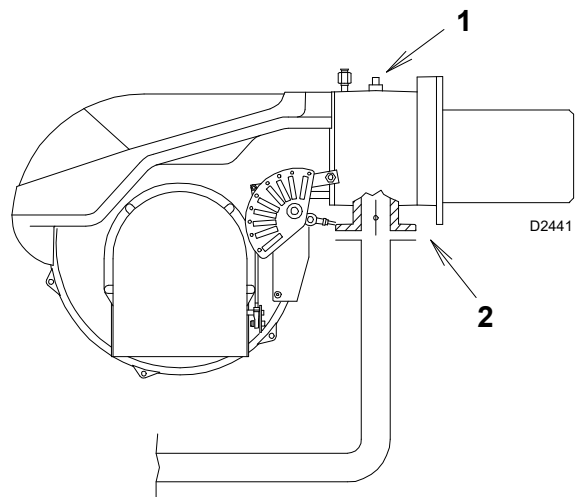

Fig. 21
Gas pressure measured at test point 1)(Fig. 21 on page 23), with:
Pressure loss at gas butterfly valve 2)(Fig. 21 on page 23) with maximum opening: 90°.
- subtract the combustion chamber pressure from the gas pressure measured at test point 1)(Fig. 21 on page 23).
Gas pressure at test point 1)(Fig. 21) = 17.0 mbar
To calculate the required gas pressure at test point 1)(Fig. 21), set the maximum modulating output required from the burner operation:
- Read, on the right (column 1), the pressure at the test point 1)(Fig. 21).
pressure required at test point 1)(Fig. 21).